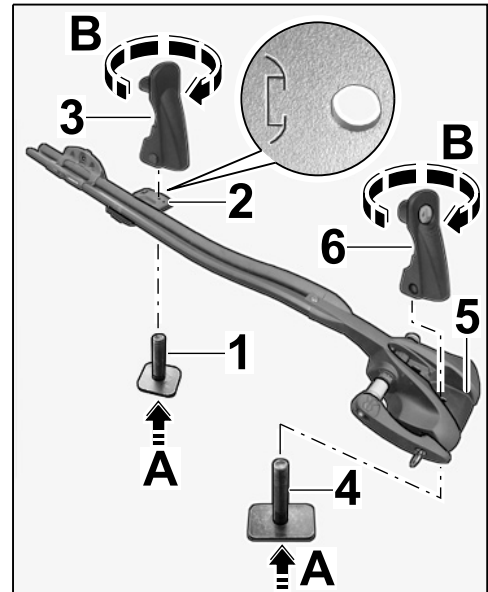

Figure 8
1.4.2 Guide T-bolt (M6 x 35) from below through the bore with the marking (⇒ *Figure 8 -inset-*) on the retainer plate (rear) (⇒ *Figure 8-A-*).
Screw tensioning lever approx. 3 turns onto the T-bolt (M6 x 35) (⇒ *Figure 8-B-*).
1.4.3 Guide T-bolt (M6 x 40) through the bore in the front wheel fork mounting (⇒ *Figure 8-5-*, ⇒ *Figure 8-A-*).
Screw tensioning lever with lock (⇒ *Figure 8-6-*) approx. 3 turns onto the T-bolt (M6 x 40) (⇒ *Figure 8-B-*).